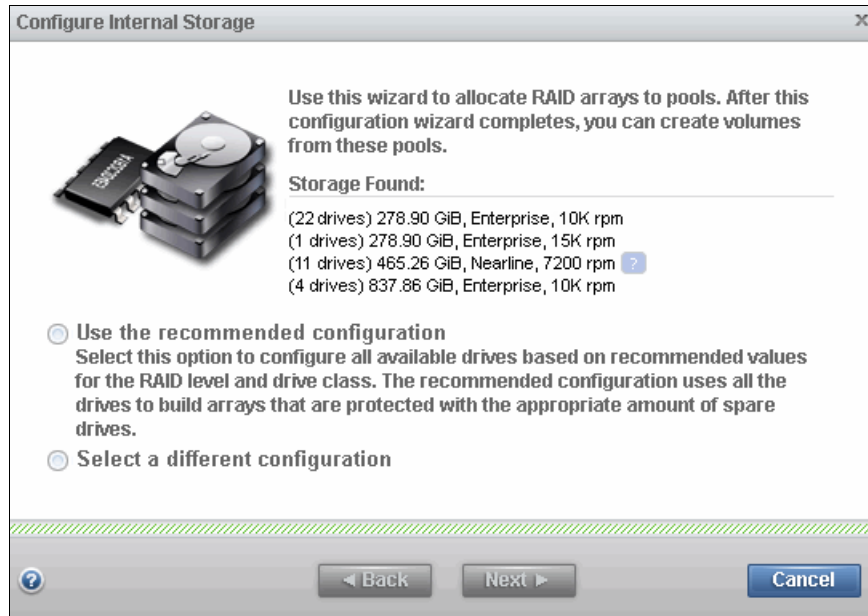

Figure 7-23 Available drives for new MDisk
3. A configuration wizard opens and guides you through the process of configuring internal storage. Figure 7-23 shows an example in which 38 drives are available for configuration.